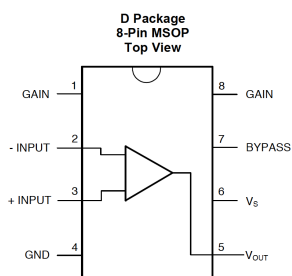

Figure 4: Pin configuration of the LM386.
- 3.1. Bring on your *Google* game to find the datasheet for our LM386 on the internet. Skim through the datasheet and look for a schematic like the one in Figure 4. Have a close look at the actual LM386N. Do you see the tiny circular indentation on top of one end? Based on that indentation, the schematic in the datasheet tells you what number each of those pins is.